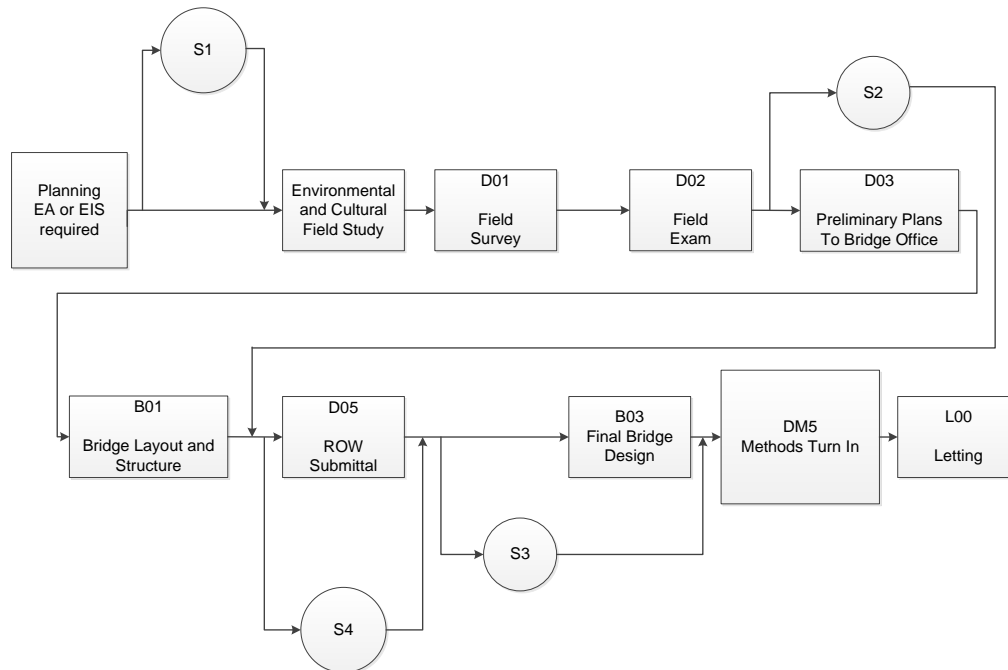
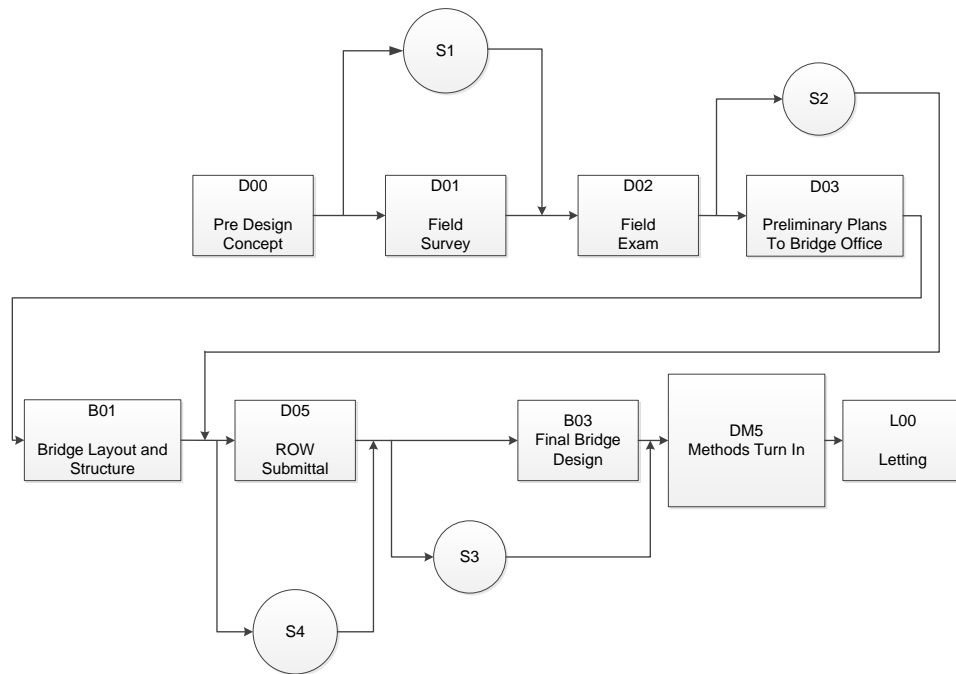

Figure 1: Typical design process flow chart for Soils Design Events with Environmental Assessment (EA) or Environmental Impact Statement (EIS).
Figure 2: Typical design process flow chart for Soils Design Events without Environmental Assessment (EA) or Environmental Impact Statement (EIS).
The Iowa DOT design process flowcharts, see Figures 1 and 2 on pages 3 and 4, provide a general workflow to successfully complete each project. The flowcharts contain a variety of tasks that may be ongoing throughout the project, and/or concurrent with other steps in the project development process. This section presents the Soils Design Events (S1 to S4) with respect to the overall general project development and design process. Soils Design Events are performed at times that range from before the Design Office Concept (D0 Event) to final plan turn-in for roadway, bridge, and/or other projects. Special situations need to be addressed on a project by project basis.
The purpose of an S1 Event or work effort is to: 1) review the proposed alignment and grade of a project for potential major soil-related (geologic and geotechnical) problems affecting design, constructability, and performance; and 2) to identify multiple locations or sites as potential borrow sources. When an Environmental Assessment (EA) or Environmental Impact Statement (EIS) is required, the S1 Event is performed in the early stages of project development, typically after the preliminary engineering and environmental study. It is completed prior to the Environmental and Cultural field studies and before the Field Survey (D1 Event), see Figure 1 on page 3. Where an EA or EIS is not required, the S1 Event begins after the Preliminary Design Concept (D0 Event) and is completed before the Field Exam (D2 Event), when the alignment(s) have been set, see Figure 2 on page 4. The S1 Event may occur within the general time frame of some of these events. The S1 Event location within the design process flow chart is shown in Figures 1 and 2 on pages 3 and 4.
other stability features that require additional ROW acquisition. The S2 Event is performed after the Field Exam Plan Development (D2 Event), and before the ROW submittal (D5 Event). This is typically before receipt of the Final TS&L (B1 Event). Except for bridges, the full drilling program (or at least all that is necessary to accomplish all S2 activities) is normally performed during the S2 study. It needs to cover the roadway alignment and borrow areas, and the structures whose locations have been determined at that point in time. In some cases, a phased investigation program will be required in order to address specific project needs. The S2 Event location within the design process flow chart is shown in Figures 1 and 2 on pages 3 and 4.
The S3 Event is performed after the Plans Submitted to ROW (D5 Event) and after completion of the S2 Event. The S3 Event should be completed an estimated 2 months (more if possible) before the Methods Turn-In (DM5 Event) in order to allow time for the design section to incorporate the S3 items into the overall DM5 submittal. The S3 Event location within the design process flow chart is shown in Figures 1 and 2 on pages 3 and 4.
The S4 Event is performed after the Final TS&L (B1 Event), and may be performed either before or concurrent with the S3 Event, or in some circumstances, even after some or most of the S3 Event work has been completed. The S4 Event should be completed 12 to 15 months before the Final Bridge Plans (B3 Event) in order to provide sufficient time for the bridge designer to incorporate the S4 information into the bridge plans. The S4 Event location within the design process flow chart is shown in Figures 1 and 2.